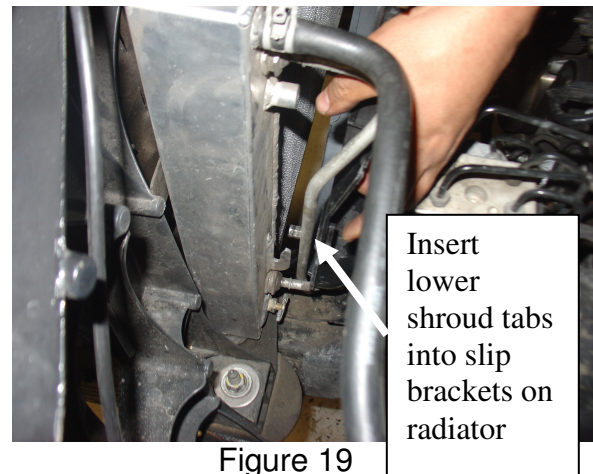

Figure 19
- Slide the lower tabs of the fan shroud into the slip brackets on the radiator (driver's side shown, Figures 19, 21)